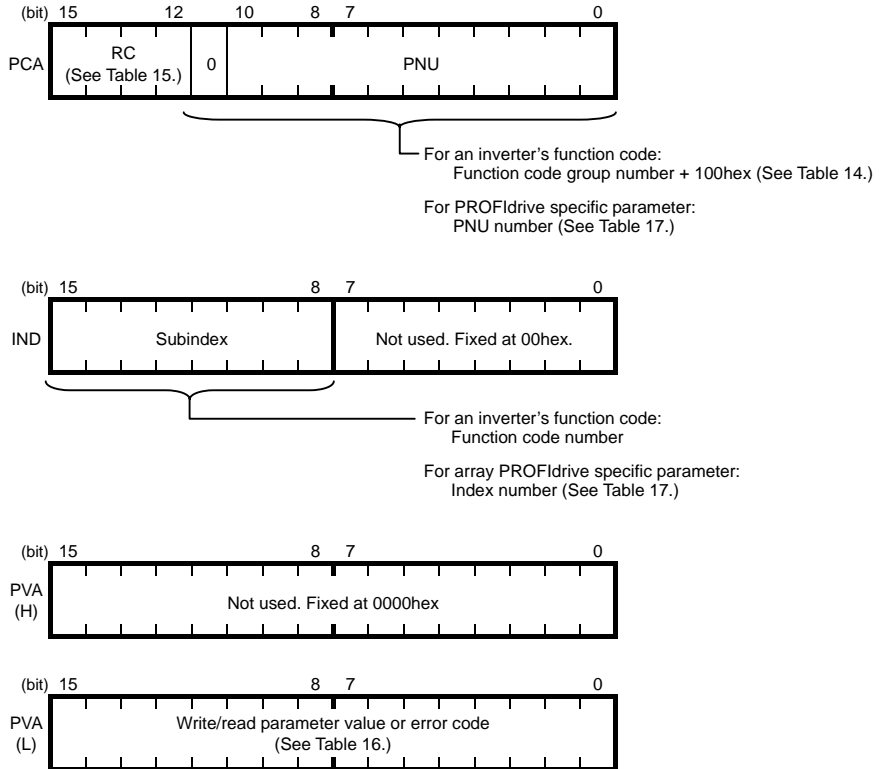

Figure 16 How to Access Parameters
- Specify the target parameter to be accessed using PNU and Subindex areas (see Figure 16).